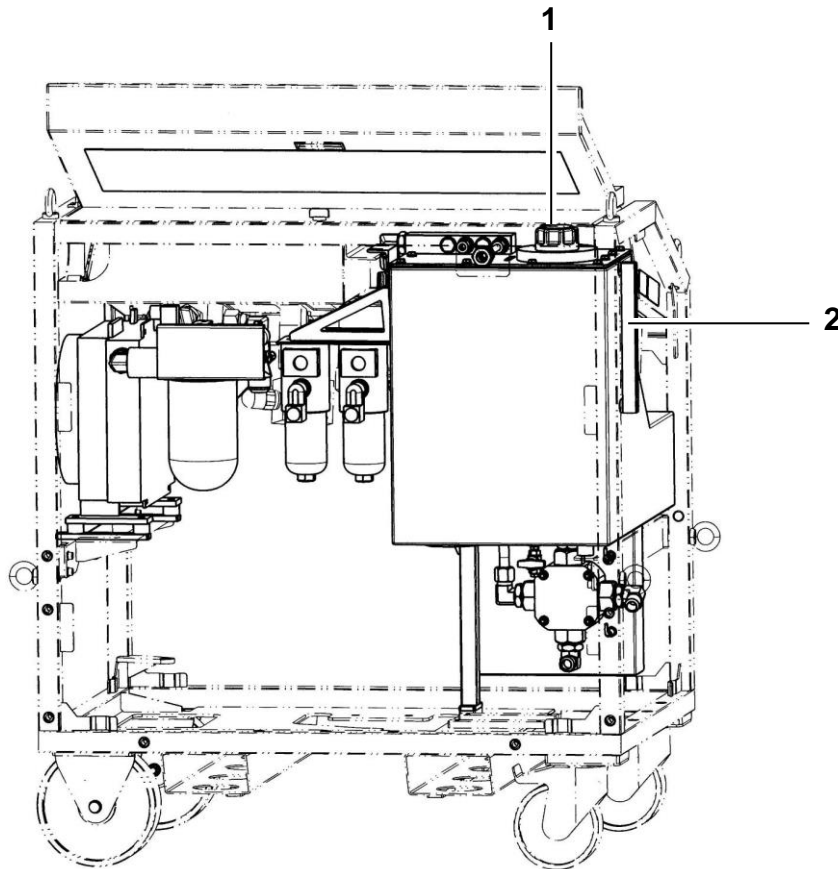

Fig. 3.3 BENCH OIL RESERVOIR REPLENISHMENT
3.3.1 BENCH OIL RESERVOIR REPLENISHMENT (FIG. 3.3)